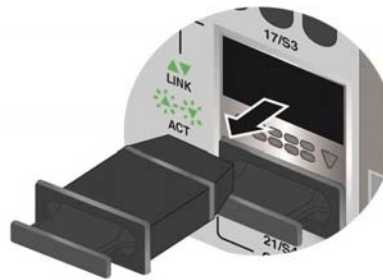

Figure 61. Removing the Dust Cover from a Slot on the AT-SBx81XLEM/Q2 Expansion Module
1. Remove the dust cover from QSFP+ slot 17 or 21. Refer to Figure 61 on page 104.
1. Remove the dust cover from a QSFP+ slot in the switch. Figure 61 shows the removal of the dust cover from slot 17.